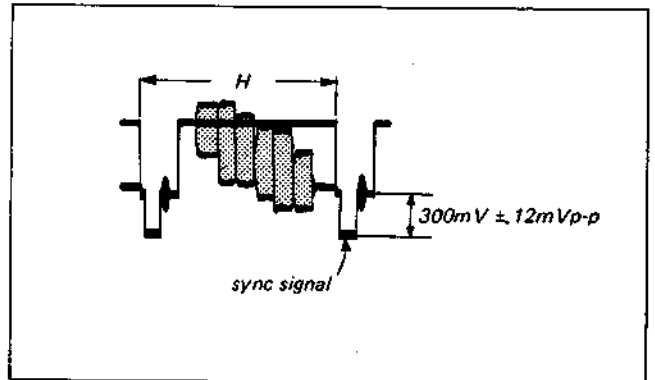

Fig. 4-4-14. Sync AGC adjustment
- (3) Adjust RV1 so that the sync signal level is $300\text{mV} \pm 12\text{mVp-p}$. (See Fig. 4-4-14.)